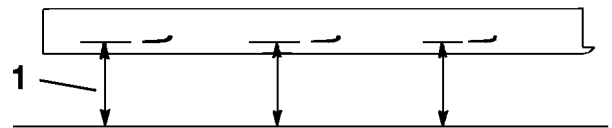

Figure 59
2. Measure from a level surface to the cutting edge, position A, of the blades (Figure 59). Note this dimension.